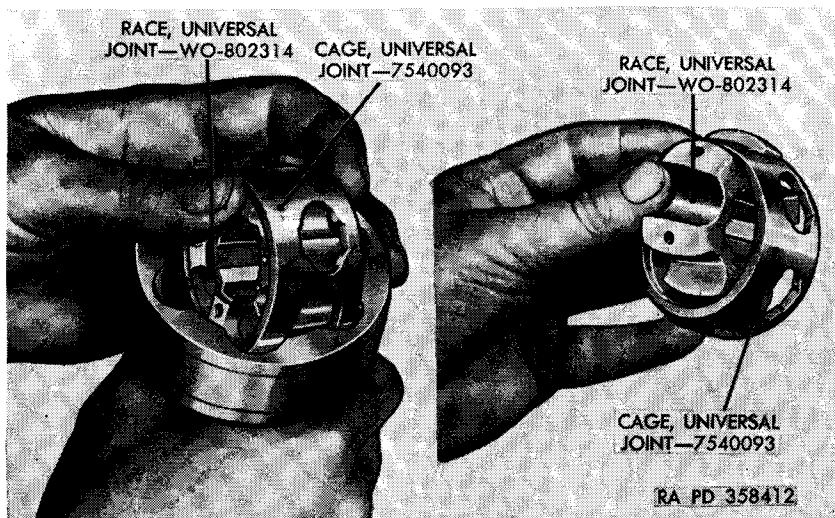

Figure 64. Separating Rzeppa universal joint race from universal joint cage.
f. Separate Universal Joint Race From Universal Joint Cage (fig. 64). Turn the universal joint race in the universal joint cage so that one of the bosses on the universal joint race can be dropped into one of the